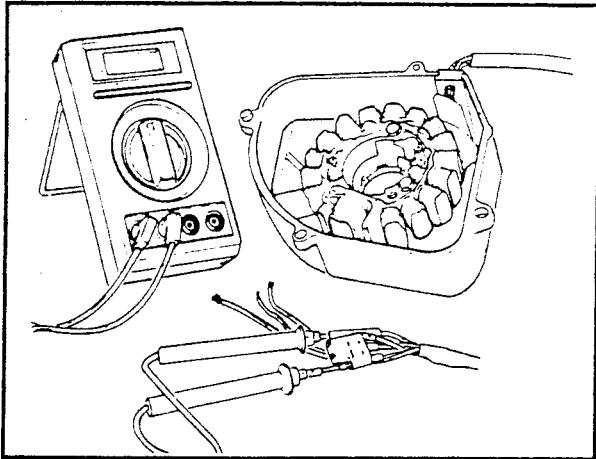

Figure 4-7. High Speed Trigger Coil Continuity Test
2. See Figures 4-7 thru 4-12. Disconnect the connectors of each part and check the resistance or continuity between each terminal.